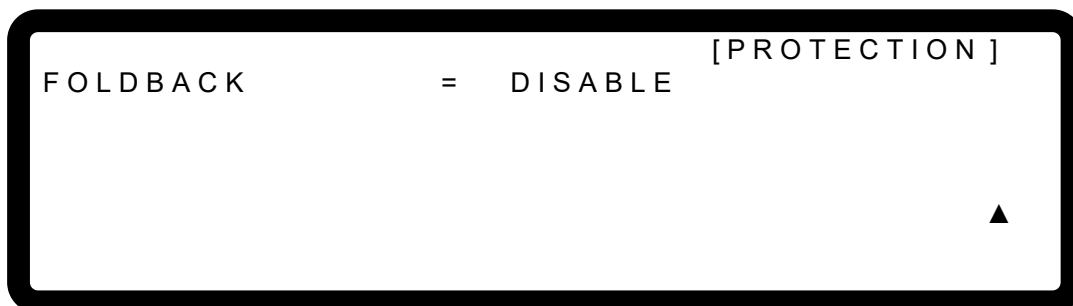

Figure 3-79
- Use “”, “”, “”, “” keys to move the cursor to the column to be set as Figure 3-79 shows.